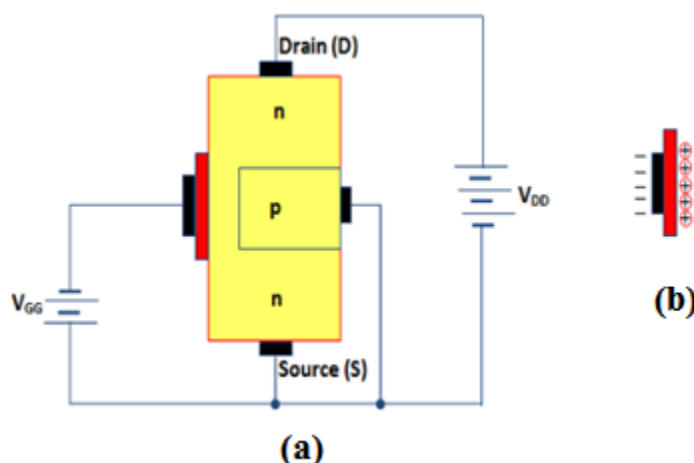

Fig. 4.18 Operation of D- MOSFET
- Fig.4.18 (a) shows the circuit for operation of n-channel D-MOSFET.
- Since gate is negative, it means electrons are on the gate as shown in fig. 4.18 (b).
- These electrons repel the free electrons in the n-channel, leaving a layer of positive ions in a part of the channel as shown in fig. 4.18 (b).